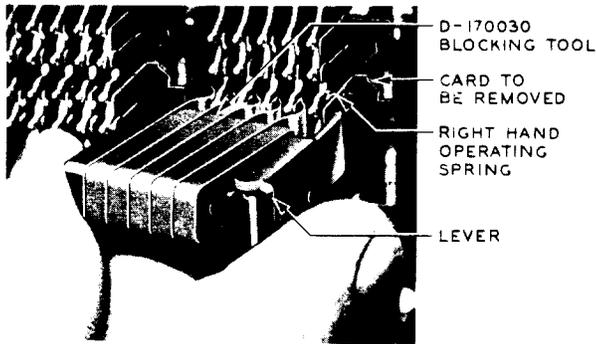
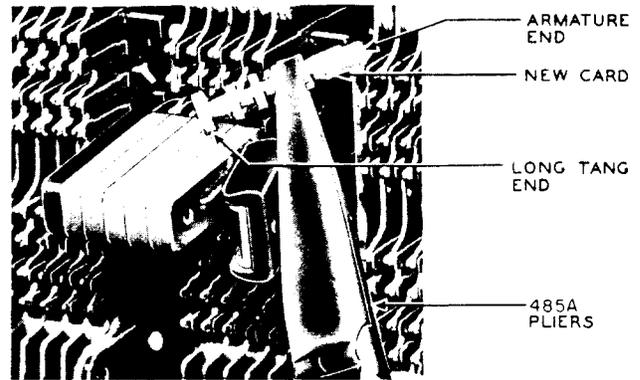

Fig. 5 - Applying Blocking Tool
Fig. 8 - Grasping a New Card for Replacement
the tool into position as shown in Fig. 5 and 6, exercising care not to damage the springs. Make sure that the tool is fully seated, that is, the front end of the tool strikes the ends of the springs as shown in Fig. 8 and all the associated contacts of the crosspoint are closed.
(1) Never use a used card, since each insertion and removal of a card tends to round the edges thereby causing the card to fit loosely.
(2) Grasp a new card near the center with the 485A pliers with the armature end of the card toward the right and the long tang in a direction away from the pliers as shown in Fig. 8.